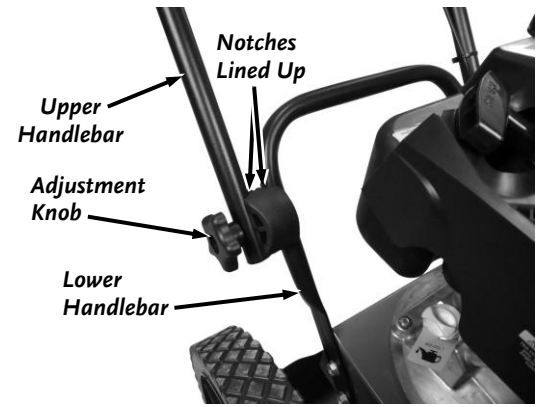

Figure 4
1. Loosen both the Adjustment Knobs and move the Handlebar up or down until the Notches on the Adjusters are aligned on both sides and tighten the Knobs (**Figure 4**). This puts the Handlebar at a comfortable operating position for many people.